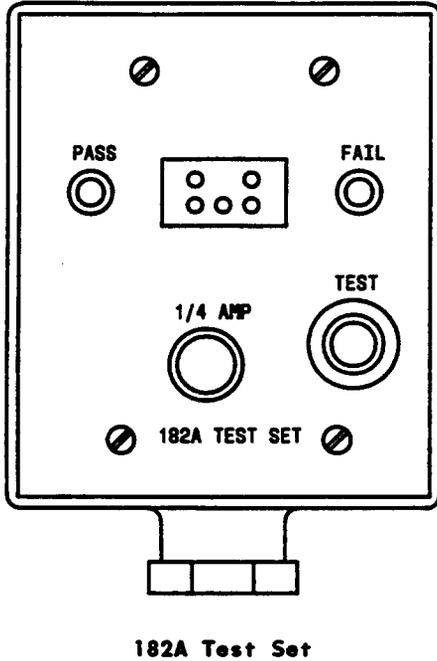

Figure 46—182A Test Set
5.02 The 182A test set (103016549) (Figure 46) is used to test the minibridge lifter protector units for tip and ring continuity and for shorted protector blocks. It also tests the function of the 410A switch contained in the protector unit. The 182A test set is housed in a conduit box for wall mounting.